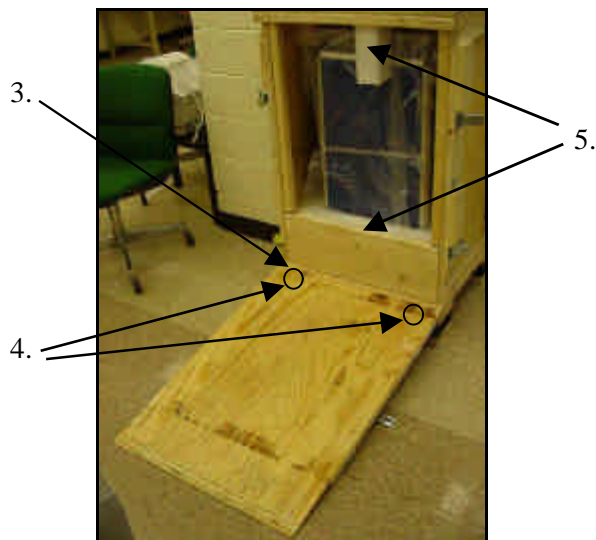

Figure 2: Crate Opened and Ramp Installed on Pallet
4. Insert the pins into the holes on the ramp (**Figure 2**).
5. Remove the wood and foam supports (**Figure 2**).